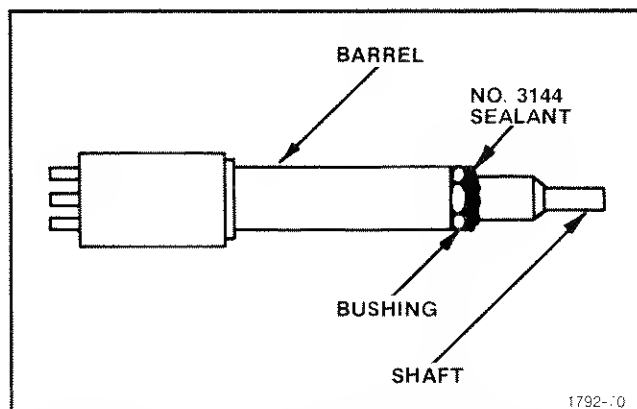

Fig. 5-17. Application of sealant to FOCUS and INTENSITY controls.
17. Install the FOCUS and INTENSITY controls (see Fig. 5-17)